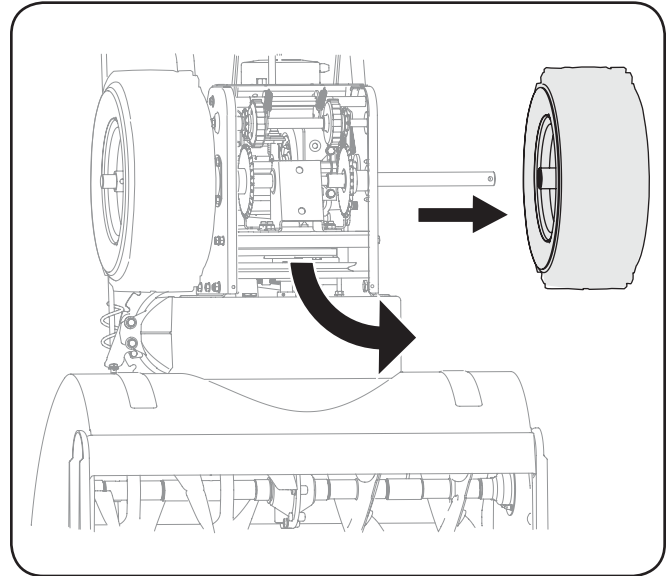

Figure 7-9
3. Remove screws from the frame cover underneath the snow thrower (refer to Fig. 7-9). Remove the right wheels from the axle.